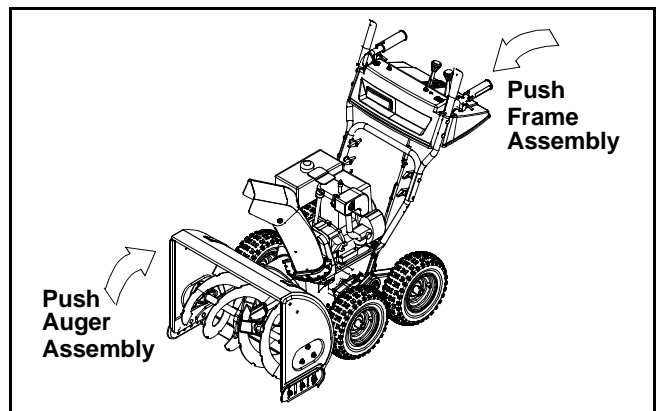

Figure 16
- While lifting up on the handles, bring the frame assembly close to the auger housing and place the two belts on the front and rear engine pulleys. See Figure 16.